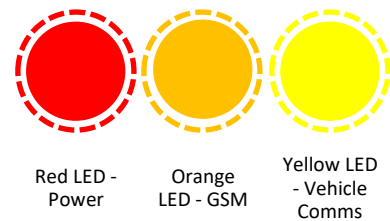

Fig. 8
2. The Yellow (vehicle Comms), Orange (GSM) and Green (GPS) LEDs will flash steadily, (Fig. 8) and then remain 'on' when successful in setup